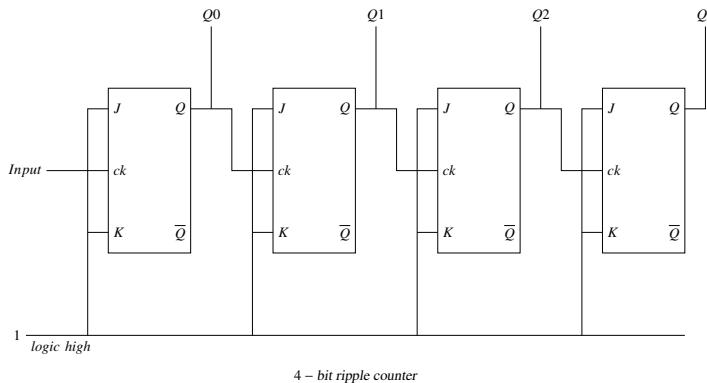

Fig. 5.20
20. Consider a 4-bit counter constructed out of four flip-flops. It is formed by connecting the J and K inputs to logic high and feeding the Q output to the clock input of the following flip-flop (see Fig. 5.20). The input signal to the counter is a series of square pulses and the change of state is triggered by the falling edge. At time $t=t0$ the outputs are in logic low state ($Q_0 = Q_1 = Q_2 = Q_3 = 0$). Then at $t=t1$, the logic state of the outputs is (GATE-PH2020,30)